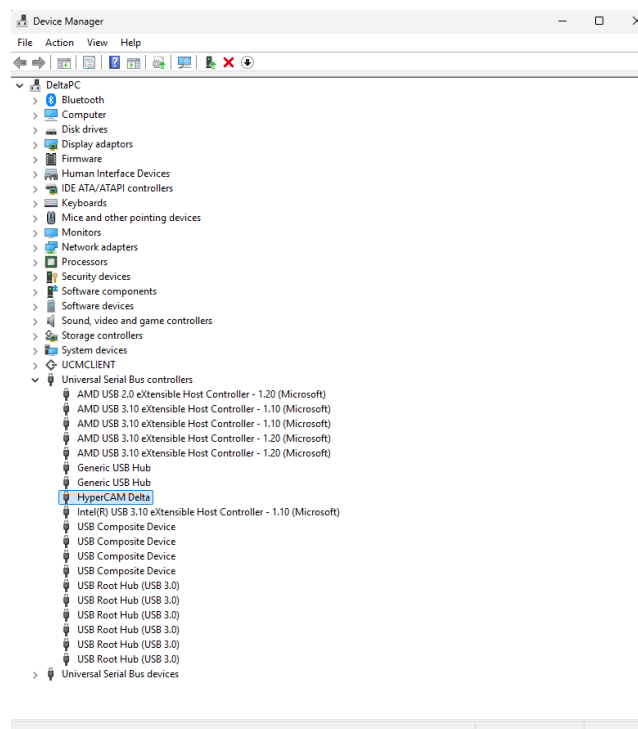

FIG 6. WINDOWS’ DEVICE MANAGER PANEL RECOGNIZING THE HYPERCAM DELTA.
- Check in the host computer’s “device manager” (WINDOWS + X, Device Manager) if the device is getting detected by Windows (Fig.6). If there is an issue, refer to BrainWave software manual.